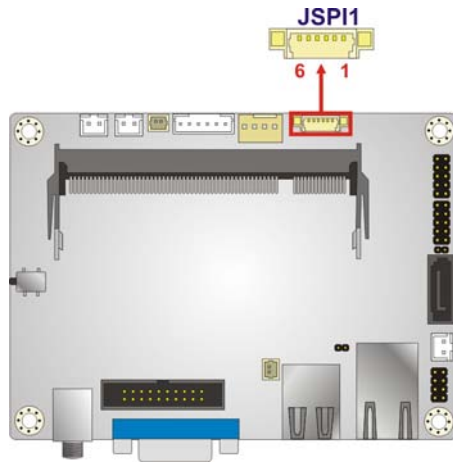

Figure 3-5: BIOS FW Connector Location
- CN Location: See **Figure 3-5**